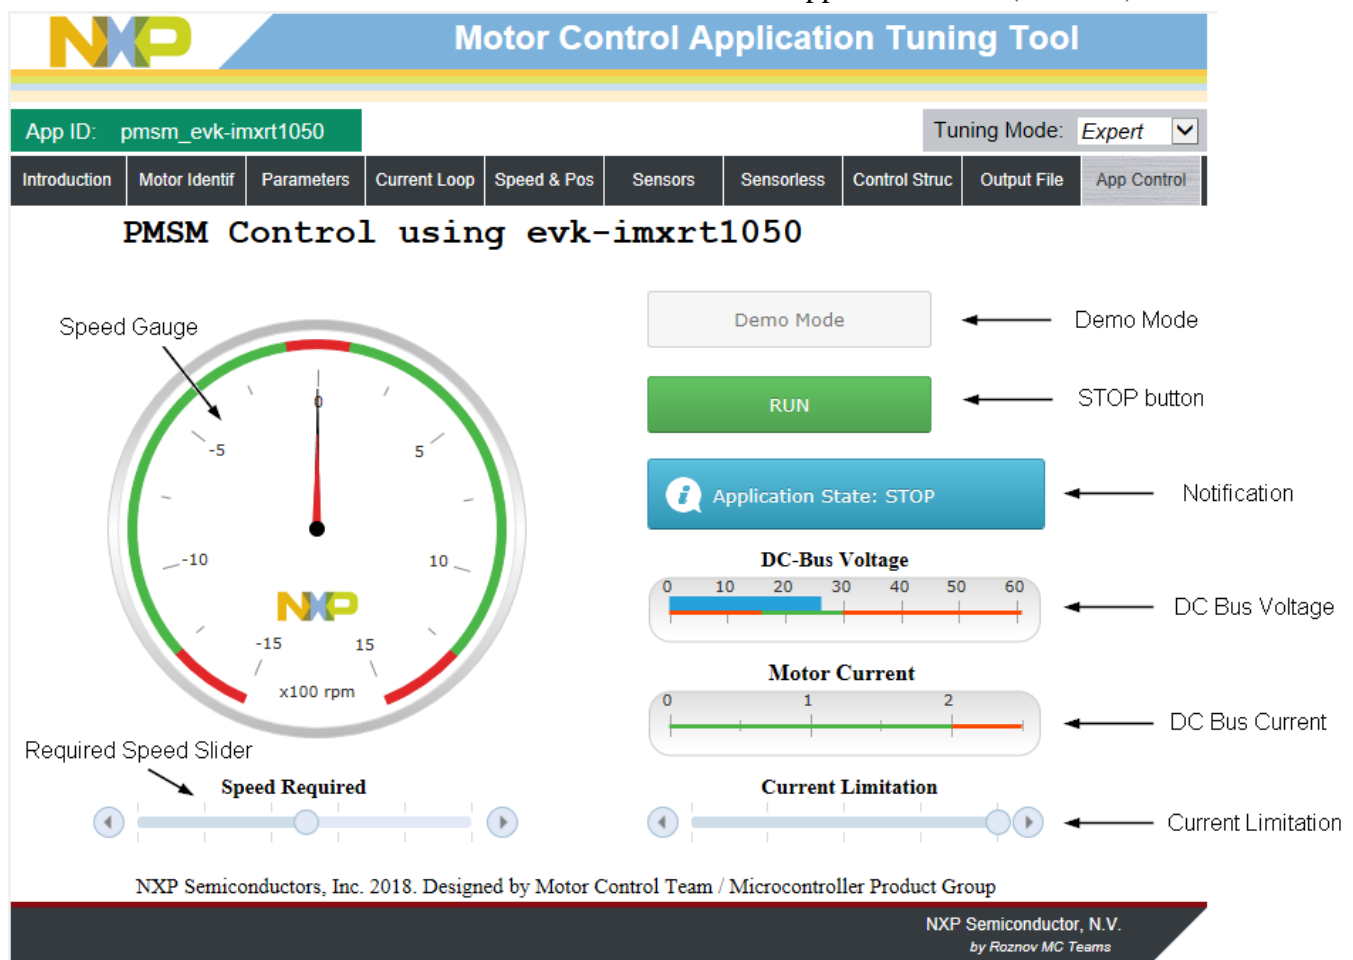

Figure 23. FreeMASTER control page
4. Set the required motor speed using the speed slider, as shown in Figure 23.
1. Click the “STOP” button in the FreeMASTER control page (Figure 23).
To clear the fault, click the fault notification in the control page (Figure 23).